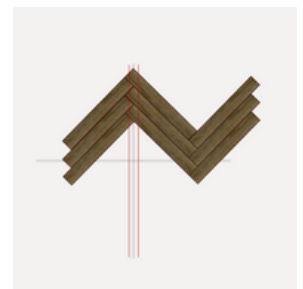

Fig. 2
- Dry lay a few planks in the herringbone or parquet style to ensure alignment and symmetry. **(Fig. 2)**